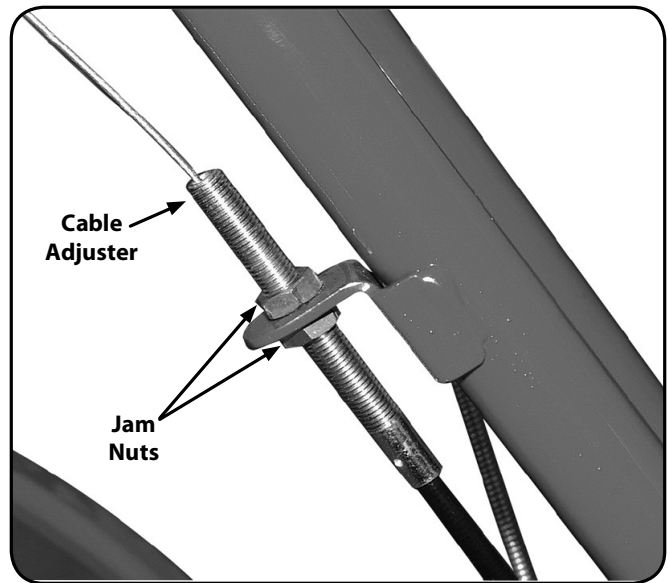

Figure 6-6
2. Belt adjustments are done with the forward clutch cable adjuster. Use two 1/2", open-end wrenches to loosen the two jam nuts a few turns. See Fig. 6-6